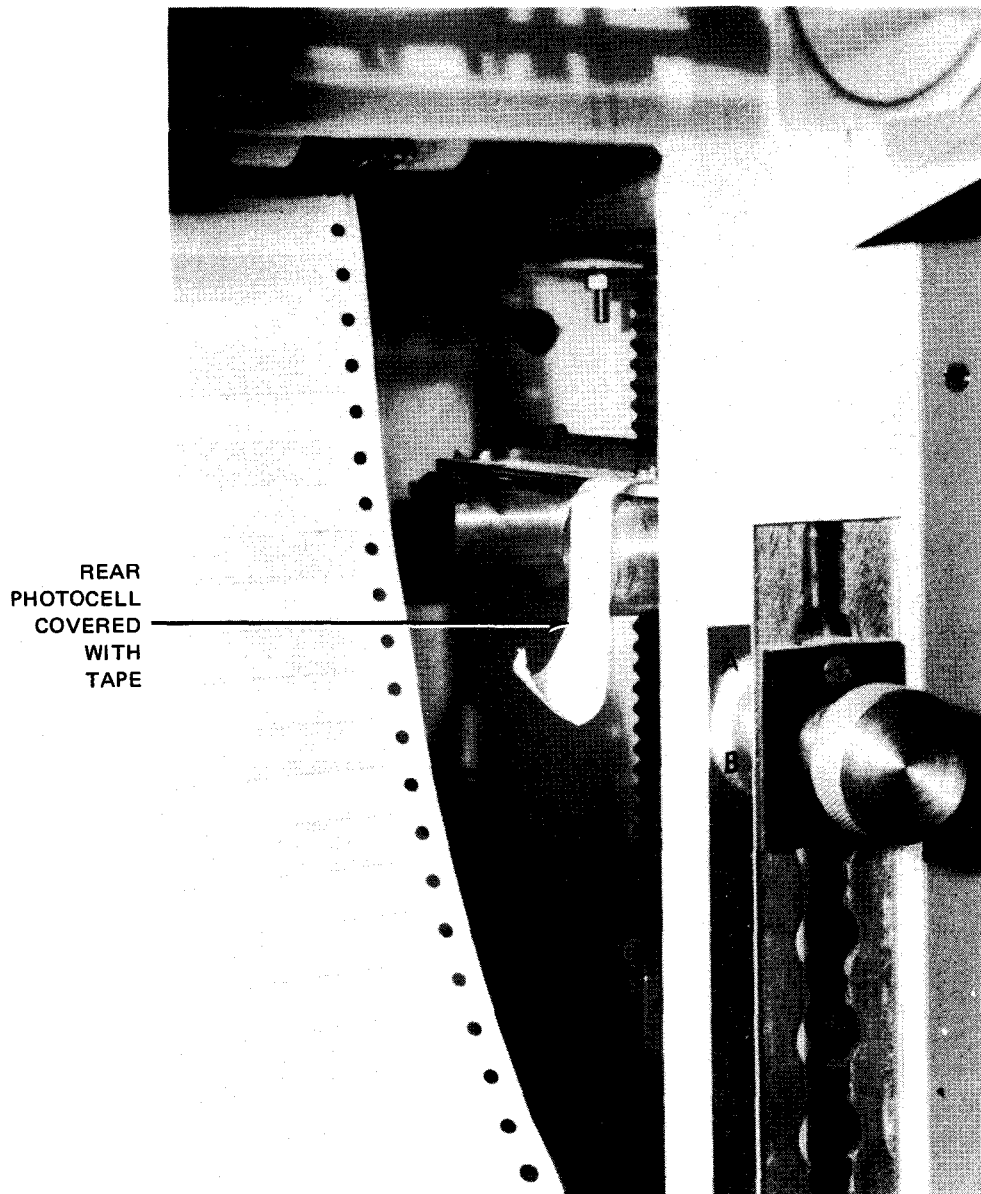

Figure 5-38. Rear Photocell Covered
- b. Cover the rear photocell with a piece of masking tape (Figure 5-38).